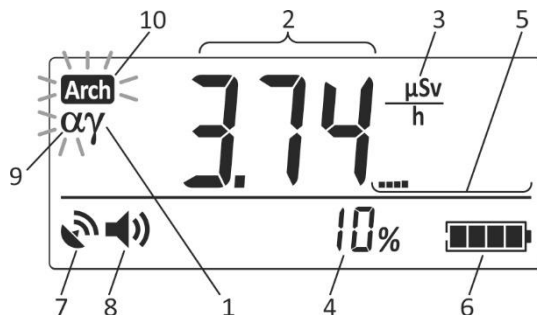

Figure 2.11 – LCD of the dosimeter
A blinking **Arch** symbol is indicative of critical filling of the nonvolatile memory and, therefore, of the possibility of information loss ((10) Figure 2.11). **Arch** symbol is briefly highlighted at a 4 second interval in all modes and submodes of the dosimeter except for the "Measurements results viewing stored in the nonvolatile memory" mode and "Measurement result saving in the nonvolatile memory" submode, if the circular buffer intended for DE accumulation history autosaving can provide for less than 10 DE records, or if information has already been lost.
2.3.6.5.1.2 When photon-ionizing radiation DER is measured using ABG probe, alpha radiation presence is also monitored. When alpha radiation is registered (when the pulse count rate from alpha radiation detector exceeds the value of 1 cps), the dosimeter's LCD begins to display a blinking "α" symbol ((9) Fig. 2.11) and generates typical sound and light alarms. Open the alpha detector window for correct registration of alpha radiation (Fig. 2.21).
2.3.6.5.2.3 In this mode the dosimeter’s LCD displays the following (Figure 2.11):
- “ $\gamma$ ” symbol (1) – radiation type under measurement;
- DER measurement result (2);
- DER measurement result dimension (3);
- estimated limits of the expected relative statistical deviations (4) of the measurement result (2) given 0.95 confidence probability – hereinafter referred to as the specified limits of statistical deviations.
- indicator of instantaneous DER value (5).
- battery status symbol (6);
- navigation receiver status symbol (7);
- status symbol of registered gamma quanta, alpha or beta particles signaling (8);
- symbol of alpha radiation presence (9) (when DER is measured using ABG probe);
- sign (10) of critical filling of the nonvolatile memory of the dosimeter, where DE accumulation history is stored (2.3.4 of this operating manual).